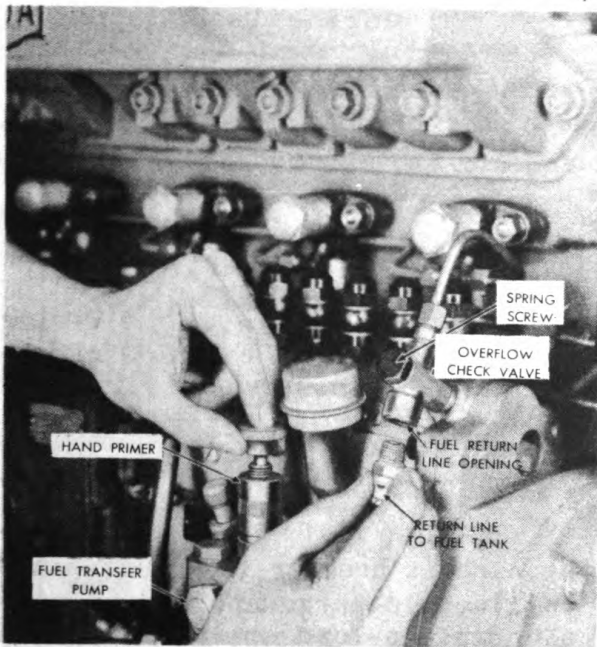

Figure 15. Venting and Priming
5. Connect the fuel return line, from the fuel injection pump overflow (see Figure 15), to the fuel tank return opening. **NOTE:** The fuel tank return opening should be connected to the horizontal outlet of the "T" provided in one of the fuel tank connections and vertical outlet of this "T" should be provided with an open extension for vent purposes.
6. Loosen the spring screw of the fuel injection pump to release overflow check valve spring tension so pump housing can be vented. Remove the fuel return connection at the fuel pump overflow (see Figure 15) and work the hand plunger on the fuel transfer pump until the air bubbles cease coming out of